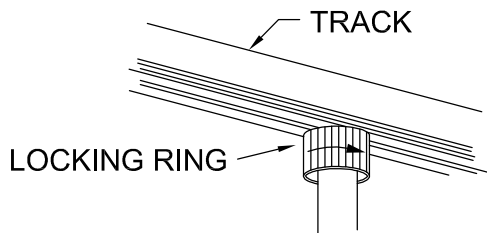

FIGURE 3
- 3- Turn LOCKING RING clockwise, to secure MOUNTING HEAD into TRACK. (FIGURE 3)